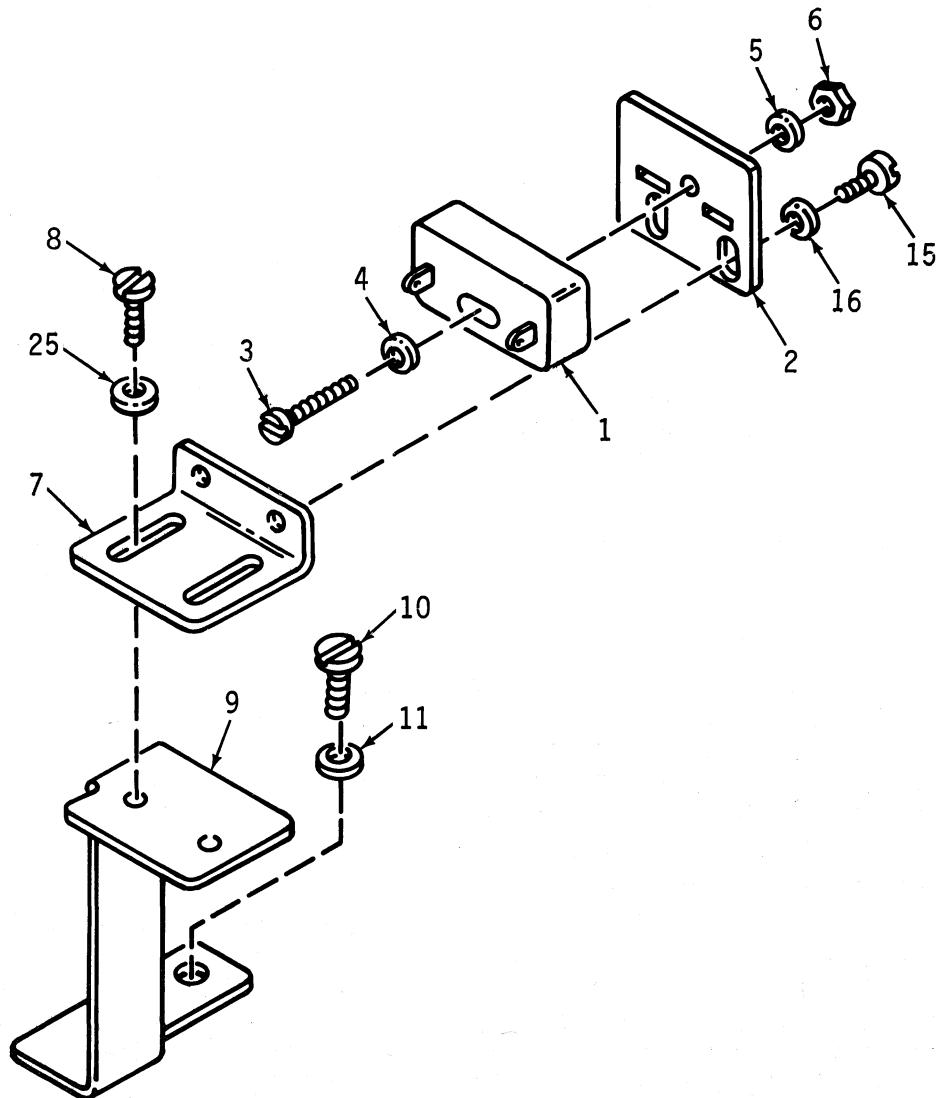

Figure 5-8. REED SWITCH ASSEMBLY, LEFT (AG)
5.2.7.2 Removal/ReplacementA. Reed Switch (Left and Right) (See Figure 5-8)